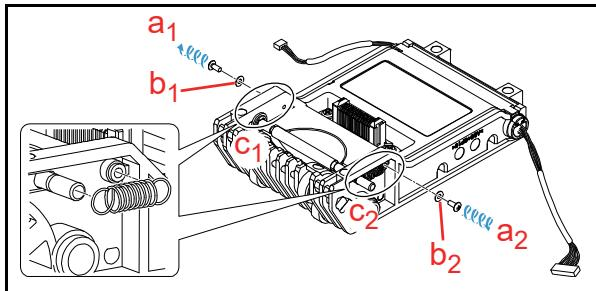

**Figure 4-77** Sponge Roller Assy. Removal (Rear Transport Unit) 2
2. Remove the two (2) Pulley Pins (Figure 4-77 a1 & a2) to remove the two (2) Sponge Roller Assy. (Figure 4-77 b1 & b2).